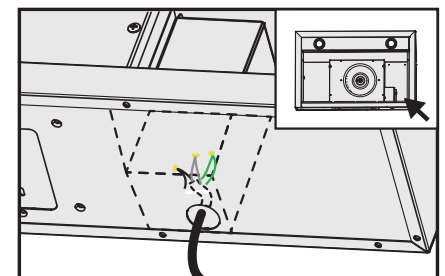

Figure 8
- **WARNING: ALL CONNECTORS MUST BE ENCLOSED IN THE WIRING COMPARTMENT (see Figure 8).**